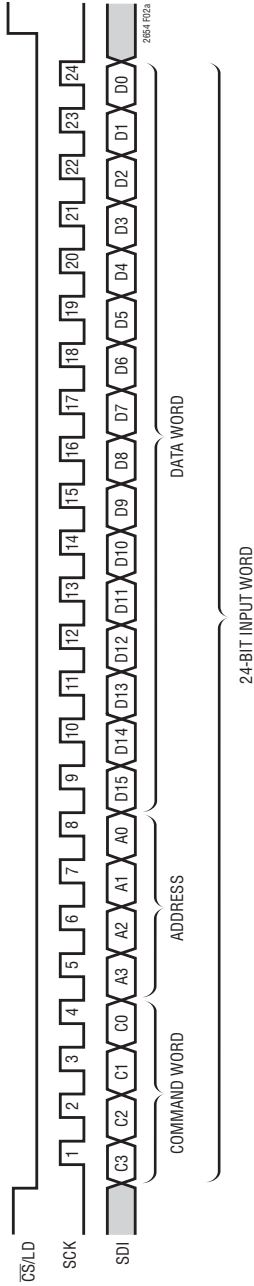

Figure 2a. LTC2654-16 24-Bit Load Sequence (Minimum Input Word)
**SDI (Pin 9/Pin 9):** Serial Interface Data Input. Data is applied to SDI for transfer to the device at the rising edge of SCK (Pin 10). The LTC2654 accepts input word lengths of either 24 or 32 bits. See Figures 2a and 2b.
The  $\overline{\text{CS/LD}}$  input is level triggered. When this input is taken low, it acts as a chip-select signal, powering on the SDI and SCK buffers and enabling the input shift register. Data (SDI input) is transferred at the next 24 rising SCK edges. The 4-bit command, C3-C0, is loaded first; followed by the 4-bit DAC address, A3-A0; and finally the 16-bit data word. For the LTC2654-16 the data word comprises the 16-bit input code, ordered MSB-to-LSB. For the LTC2654-12 the data word comprises the 12-bit input code, ordered MSB-to-LSB followed by four don't-care bits. Data can only be transferred to the LTC2654 when the  $\overline{\text{CS/LD}}$  signal is low. The rising edge of  $\overline{\text{CS/LD}}$  ends the data transfer and causes the device to carry out the action specified in the 24-bit input word. The complete sequence is shown in Figure 2a.